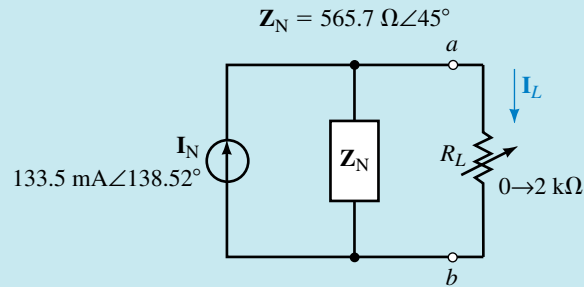

FIGURE 20–35
Step 5: The resulting Norton equivalent circuit is shown in Figure 20–35.